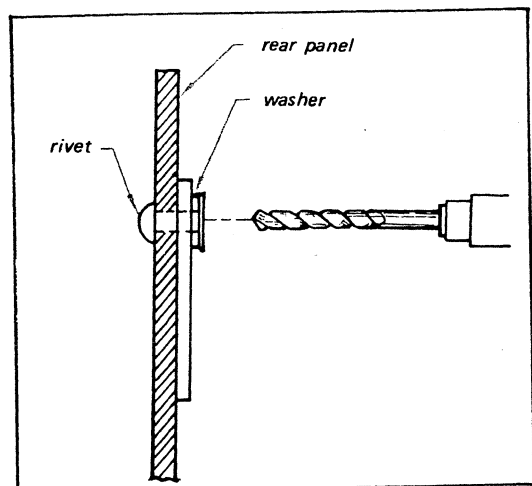

Fig. 2-6 Rivet replacement
2. Bore out the rivets using a drill bit slightly larger in diameter than the rivet. See Fig. 2-6.